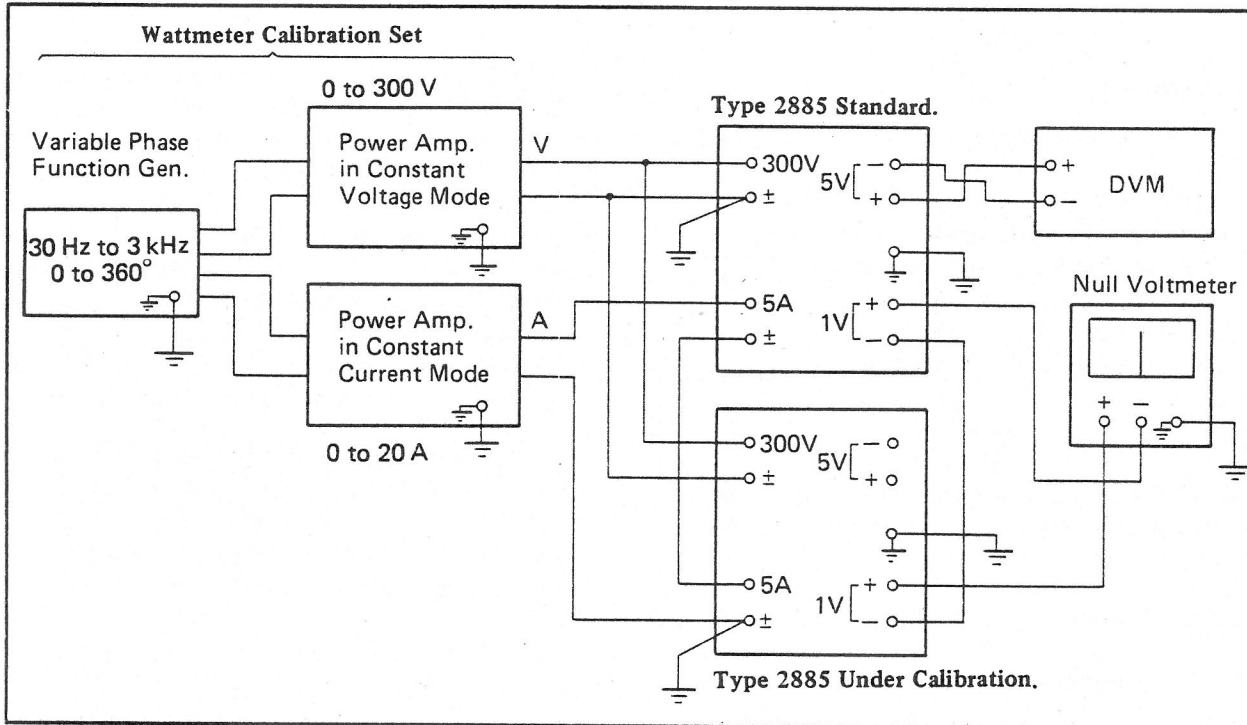

Figure 4-1.
(1) Equipment needed
- (2) Without applying input voltage to the type 2885 standard, confirm that the reading of the null voltmeter connected to the Type 2885 standard output 1V terminals is less than ±10μV. If it is not, adjust the zero adjustor on the front panel of the Type 2885 standard.
- (3) Repeat the same procedure as described above (2), with the Type 2885 to be calibrated.
- (4) Apply 300VAC voltage and 5A AC current (frequency 60 Hz, cosφ = 1) to both of Type 2885 standard and watt converter to be calibrated using the wattmeter calibration set, as shown in Figure 4-1. (The voltage input terminals of the two Type 2885 instruments should be connected in parallel, and the current input terminals connected in series).
- (5) Assume that the reading of the Null Voltmeter is \boxed{b} .
For a frequency greater than 500 Hz, the AC potential between voltage circuit, current circuit, case, etc. and earth influences the accuracy of the instrument. Therefore, each circuit should be grounded at the designated point as shown in Figure 4-1. Twisted wires should be used for input connections, to minimize electromagnetic coupling between voltage and cur-